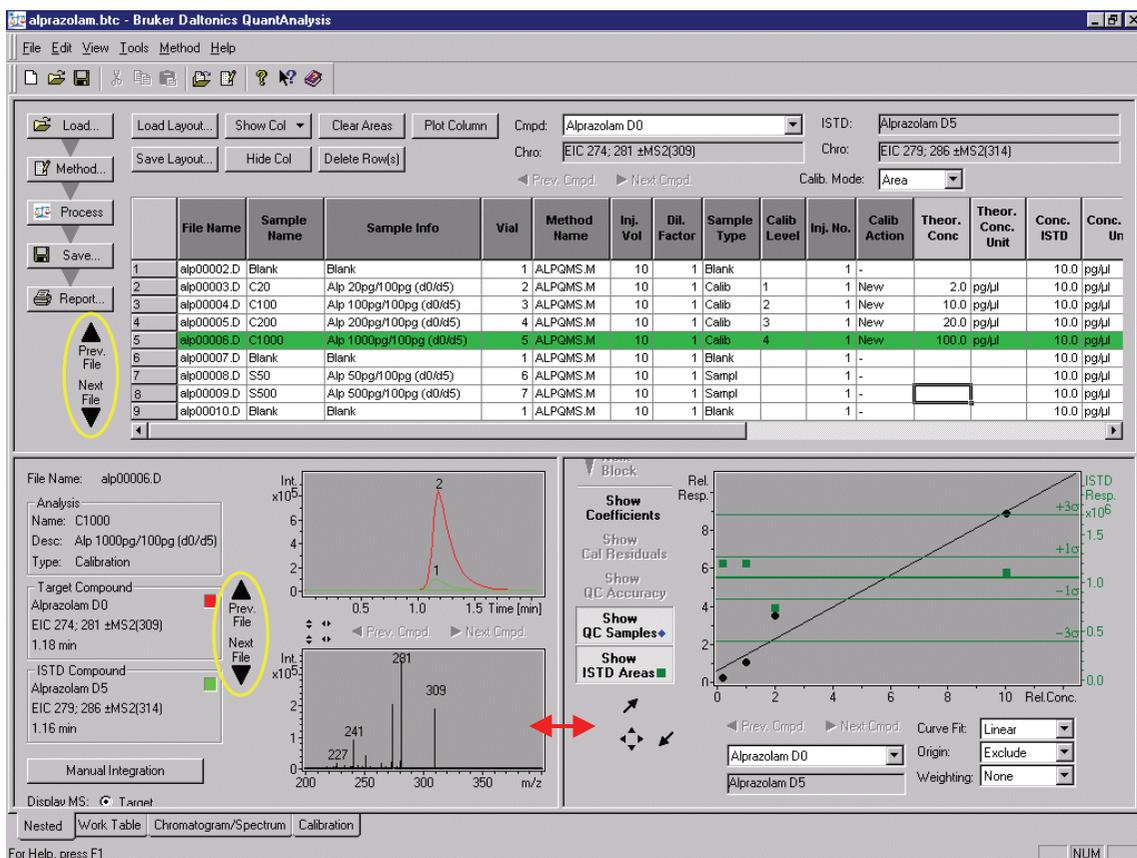

Figure 10 „Nested view“ after processing
- To switch the mass spectrum display between target compound and ISTD use the **checkboxes** in the Chromatogram/Spectrum -window (green circle in **fig. 10**).